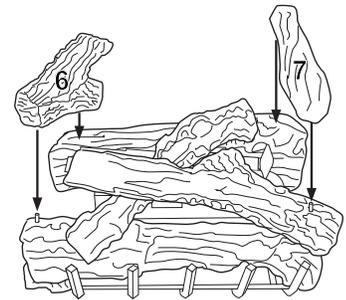

Figure 45 - Installing Logs No. 6 and No. 7
6. Place log #6 (left log) onto left pin of front log (#2) and smooth surface of rear log (#3) as shown in Figure 45. Make sure it is seated properly.
7. Place log #7 onto right pin of top log (#5) as shown in Figure 45. Make sure it is seated properly.